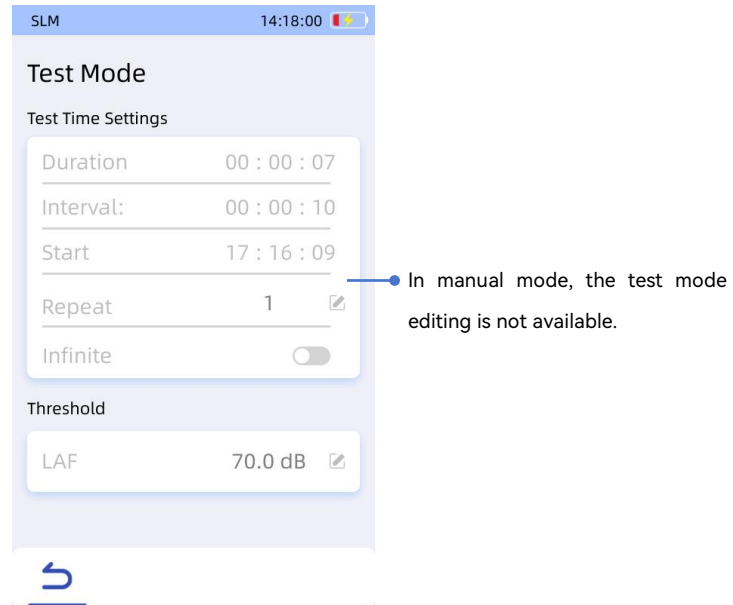

Fig 6.14 Manual Mode Parameter Settings
- a. Manual Mode: The user manually starts and stops the measurement from the main interface button area. Figure 6.14 shows that in manual mode, the test is controlled solely by user actions, making